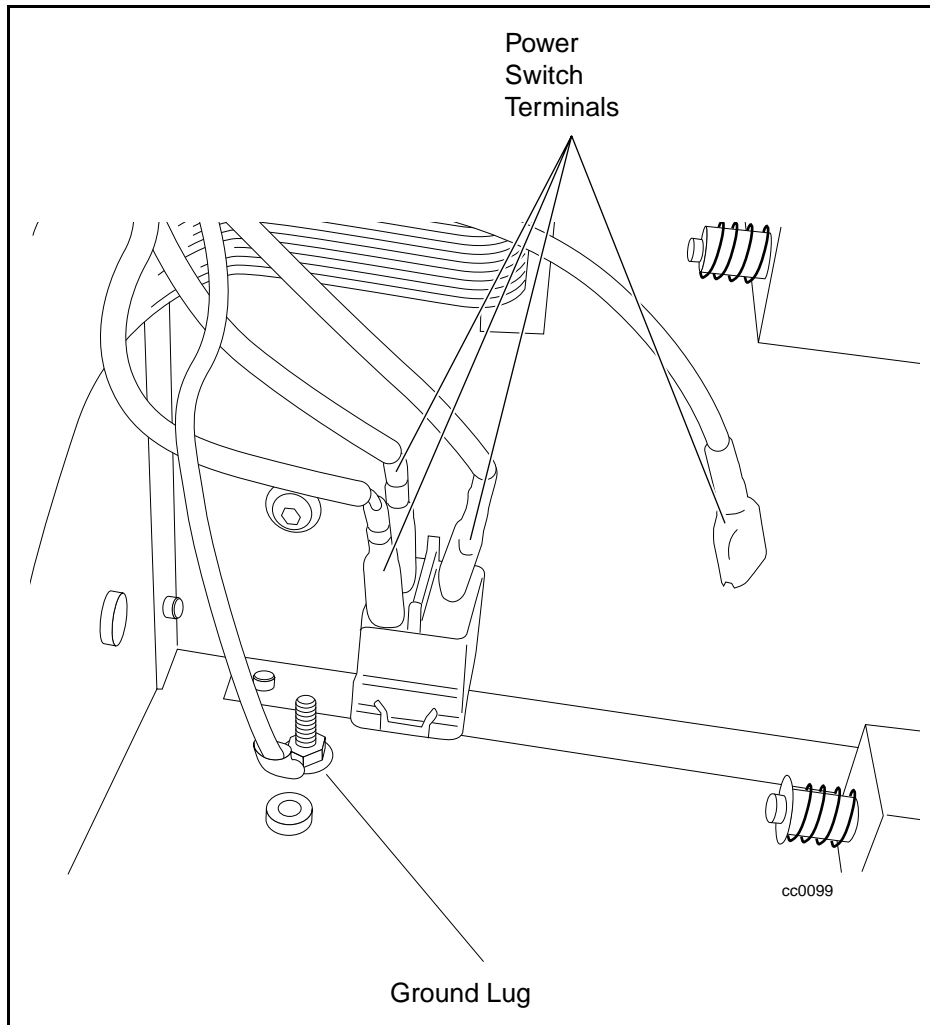

Figure 5-29. Disconnecting the power switch wires
11. Disconnect the wires to the power switch (see Figure 5-29).
2. Connect the wires from the power supply to the power switch (see Figure 5-29).